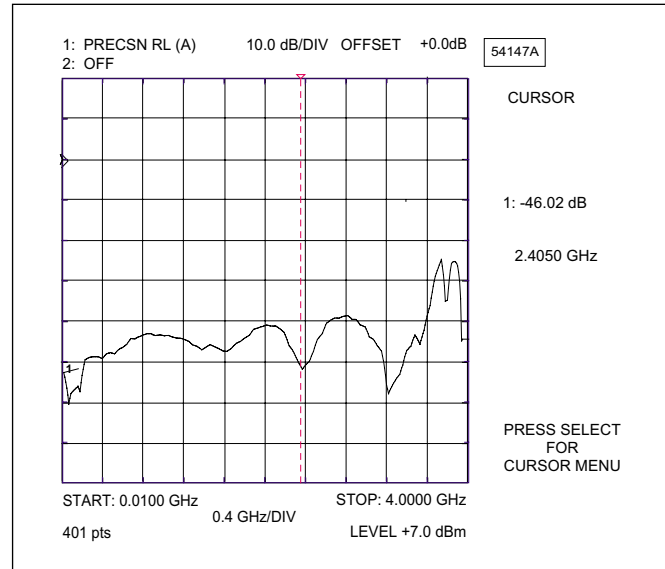

Figure 6. Direct Readout of the Precision Return Loss
22. Observe that the waveform displayed resembles that shown in Figure 6 (below).